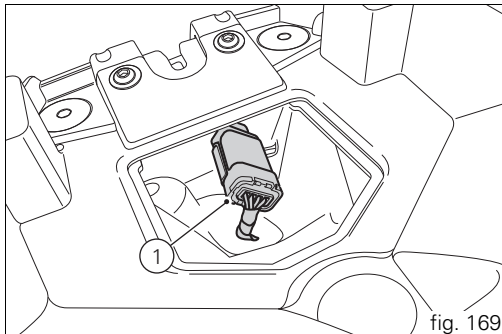

fig. 169
Your motorcycle is equipped with a connector (1, fig. 169) to which you can connect a special battery charger (2) (Battery maintainer kit part no. 69924601A - various countries; Battery maintainer kit part no. 69924601AX - for Japan, China and Australia only) available from our sales network.